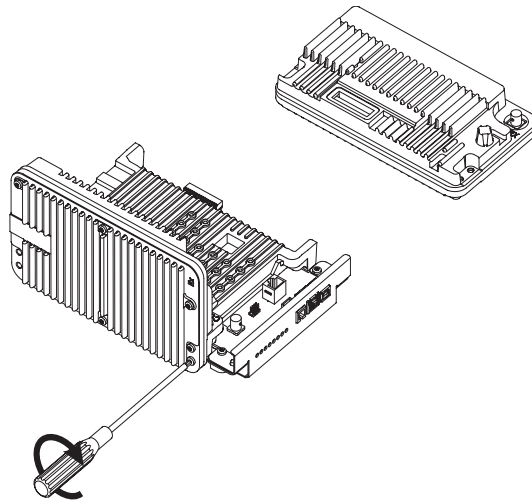

Figure 9-4. Putting together new SCM, Exciter and Receiver
5. Secure the new Station Control Module (SCM), Exciter and Receiver Modules using the eight screws (Refer to Figure 9-4) supplied with the MTR2000 MOTOTRBO Digital Upgrade kit to form the new Transceiver Assembly.